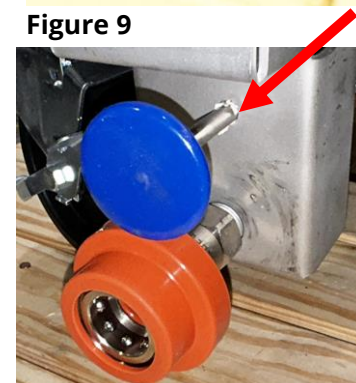

Figure 11
17. Insert the handle, with the blue cap, into the quick disconnect bracket above the quick disconnect port (see Figure 11).